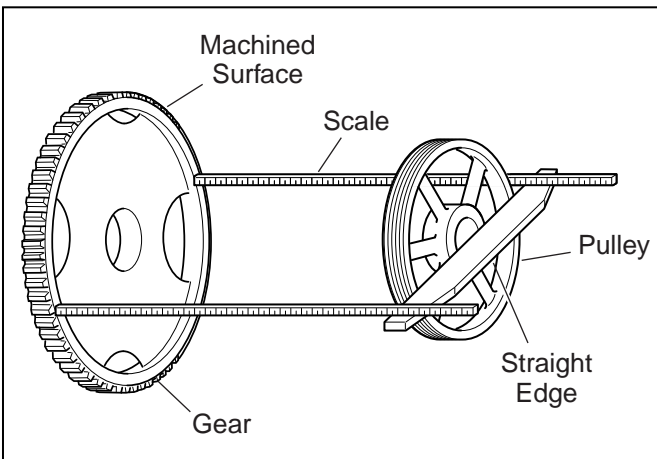

Figure 3.8 Positioning Horizontally
3. Place a straight edge horizontally across the face of the pulley and measure the distance from the machined edge of the gear to the straight edge on both sides of the pulley, as shown in Figure 3.8. If these two distances are of equal length, the pinion and gear will be in alignment horizontally.